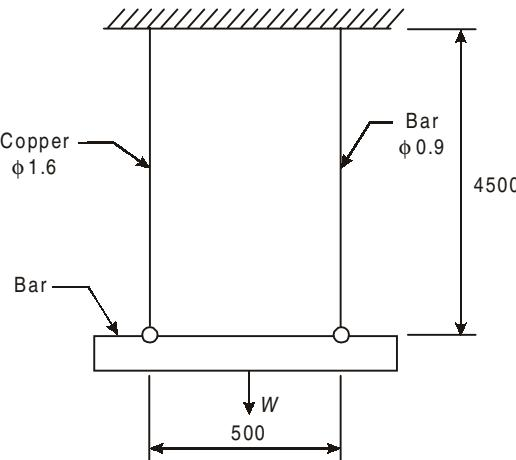

Fig. 1.27
- 1.54. Two vertical wires are suspended at a distance of 500 mm apart as shown in Fig. 1.27. Their upper ends are firmly secured and their lower ends support a rigid horizontal bar which carries a load W . The left hand wire has a diameter of 1.6 mm and is made of copper and the right hand wire has a diameter of 0.9 mm and is made of steel. Both wires are initially 4.5 m long, (a) Determine position of line of action of W if due to W both wires extend by the same amount, (b) Determine the slope of the rigid bar if a load of 200 N is hung at the centre of the rigid bar. Neglect weight of the bar. $E_c = 1.3 \times 10^5 \text{ N/mm}^2$, $E_s = 2.1 \times 10^5 \text{ N/mm}^2$. $[\text{Ans. (a) 169 mm from copper wire ; (b) 0.0033 rad.}]$